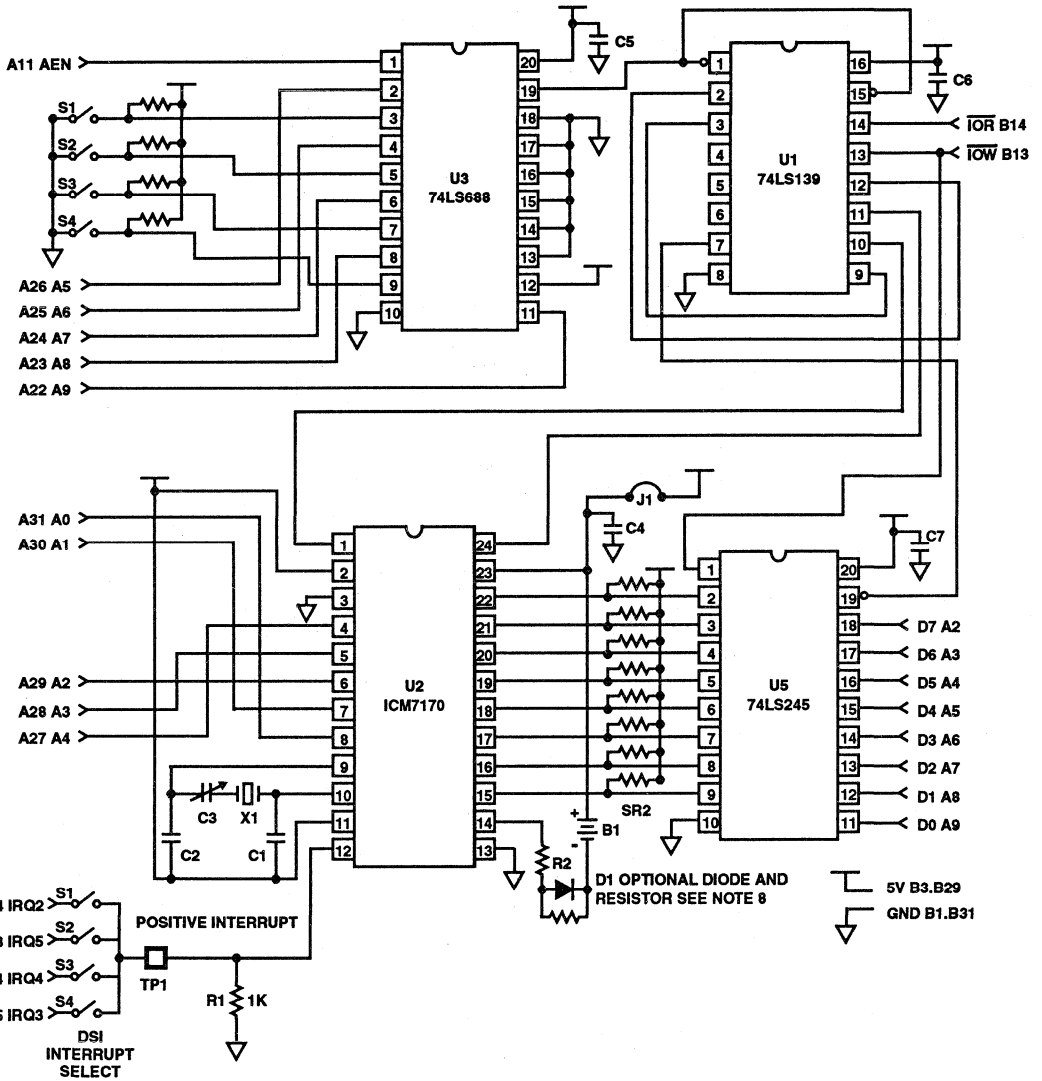

FIGURE 8. IBM PC INTERFACE FOR ICM7170
Figure 8 shows the schematic of a board that has been designed to plug into an IBM PC/XT (Note 1.) or compatible computer. In this example \overline{CS} is permanently tied low and access to the chip is controlled by the \overline{RD} and \overline{WR} pins. These signals are generated by U1, which gates the IBMs IOR and IOW with a device select signal from U3, which is functioning as an I/O block address decoder. DS1 selects the interrupt priority.
8. **V_{BACKUP} DIODE** - Lithium batteries may explode if charged or if discharged at too high a rate. These conditions could occur if the battery was installed backwards or in the case of a gross component failure. A 1N914-type diode placed in series with the battery as shown in Figure 8 will prevent this from occurring. A resistor of 2M Ω or so should parallel the diode to keep the V_{BACKUP} terminal from drifting toward the V_{SS} terminal and shutting off ICM7170 I/O during normal operation.